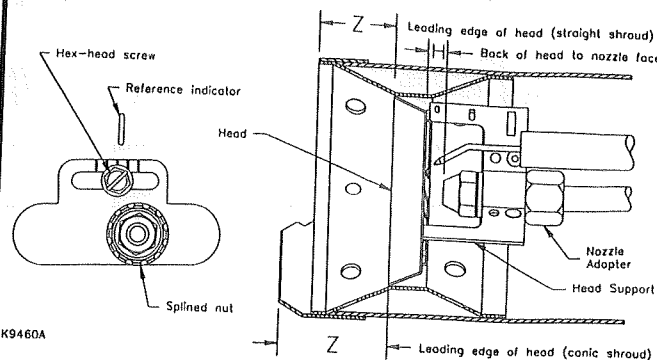

Figure 5. 'L1 & L2' Heads
2. Place a 3/4" open-end wrench on the nozzle adapter. Insert the nozzle into the adapter and finger tighten. Finish tightening with a 5/8" open-end wrench. Use care to avoid bending the burner head support legs or electrodes. If you remove the head to replace the nozzle (type "L1"/"L2" or "V1" heads), carefully reconnect the head to the nozzle adapter, making sure that the head support makes contact with the nozzle adapter shoulder. Refer to Figure 5 or 6.